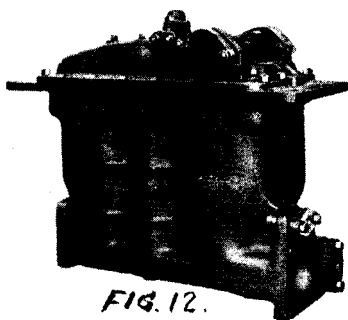

FIG. 12.
- (b) The heater (Fig. 12, page 21) which is set into the top of smoke box.